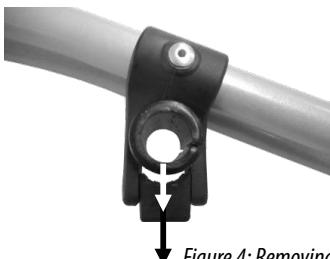

Figure 4: Removing the filler element and sleeve
- Remove the filler element and sleeve from the attachment base (Figure 4).